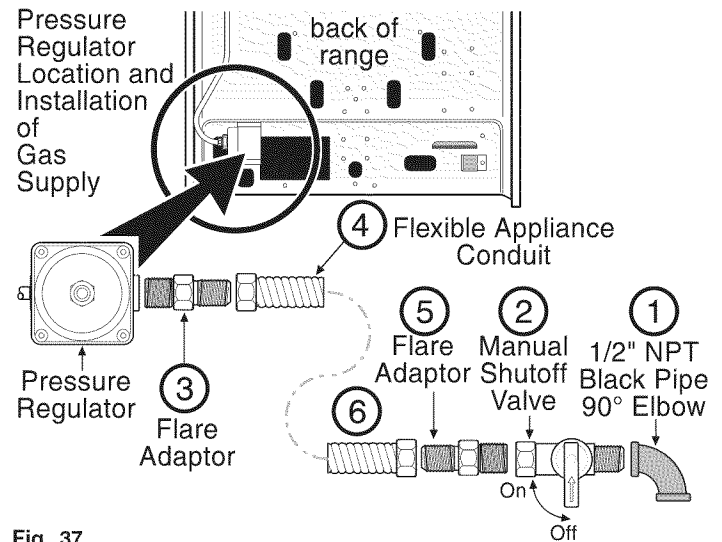

Fig. 37
This range is pre-set to operate on 4" natural gas manifold pressure. The Pressure Regulator is connected to the manifold and **MUST** be connected in series with the gas supply line (Refer to Fig. 37).
### **E** Connect the range to the gas supply (refer to Fig. 37).
Before connecting gas supply to range, **review the suggested power source location drawings** (Figs. 1, 3 & 4). To prevent leaks apply pipe joint sealant on all male (outside) pipe threading. The Pressure Regulator can be found mounted to the lower left rear of range (See Fig 37). To install the gas supply:
- 6.) Attach flexible Appliance Conduit to Flare Adapter on Shut-Off Valve (Fig. 37).